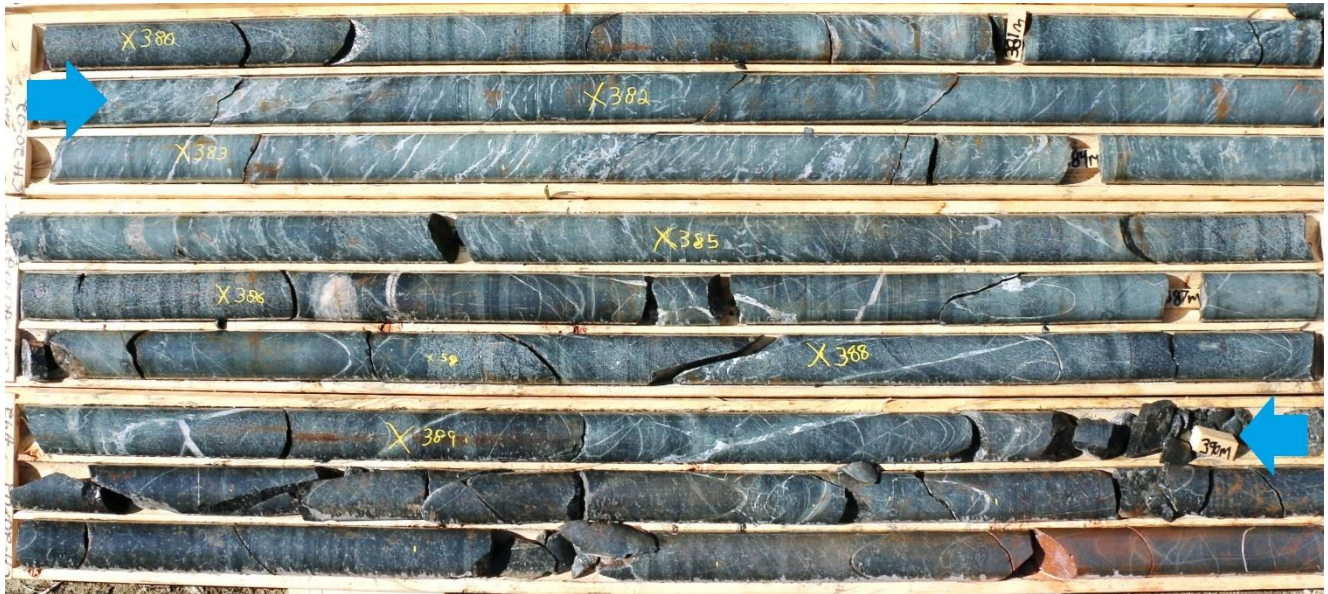

Figure 2: CM-20-02 Original contact target footwall shear zone intersection from 381.4 to 390m downhole (marked by blue arrows).
- The hole successfully intersected the original contact target footwall shear zone at 381.4 to 390.0m downhole (**Figure 2**);